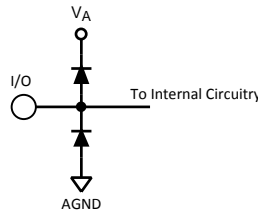

Figure 2.
- (1) The inputs are protected as shown below. Input voltage magnitudes above  $V_A$  or below GND will not damage this device, provided current is limited per Note 4 of the Absolute Maximum Ratings Table. However, errors in the A/D conversion can occur if the input goes above  $V_A$  or below GND by more than 100 mV. As an example, if  $V_A$  is +3.3V, the full-scale input voltage must be  $\leq +3.4V$  to ensure accurate conversions. See Figure 2.
- (2) To ensure accuracy, it is required that  $|V_A - V_D| \leq 100\text{ mV}$  and separate bypass capacitors are used at each power supply pin.
- (3) With the test condition for  $V_{REF} = +1.0V$  (2VP-P differential input), the 12-bit LSB is 488  $\mu\text{V}$ .
- (4) Typical figures are at  $T_J = 25^\circ\text{C}$ , and represent most likely parametric norms. Test limits are to AOQL (Average Outgoing Quality Level).
- (5) Integral Non Linearity is defined as the deviation of the analog value, expressed in LSBs, from the straight line that passes through positive and negative full-scale.
- (6) Optimum performance will be obtained by keeping the reference input in the 0.8V to 1.2V range. The LM4051CIM3-ADJ (SOT-23 package) is recommended for external reference applications.
- (7) This parameter is specified in units of dBFS - indicating the equivalent value that would be attained with a full-scale input signal
- (2) To ensure accuracy, it is required that  $|V_A - V_D| \leq 100$  mV and separate bypass capacitors are used at each power supply pin.
- (3) With the test condition for  $V_{REF} = +1.0V$  (2VP-P differential input), the 12-bit LSB is 488  $\mu V$ .
- (4) Typical figures are at  $T_J = 25^\circ C$ , and represent most likely parametric norms. Test limits are to AOQL (Average Outgoing Quality Level).
- (3) With the test condition for  $V_{REF} = +1.0V$  ( $2V_{P-P}$  differential input), the 12-bit LSB is 488  $\mu V$ .
- (4) Timing specifications are tested at TTL logic levels,  $V_{IL} = 0.4V$  for a falling edge and  $V_{IH} = 2.4V$  for a rising edge.
- (5) Typical figures are at  $T_J = 25^\circ C$ , and represent most likely parametric norms. Test limits are to AOQL (Average Outgoing Quality Level).
- (6) This parameter is ensured by design and/or characterization and is not tested in production.